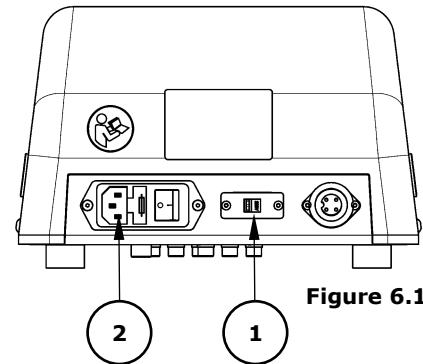

Figure 6.1.2
1. Set the voltage selector switch (1) to the correct voltage (115 V or 230 V). See Figure 6.1.2.
2. Connect the external power supply (2) with the applicable power cord.